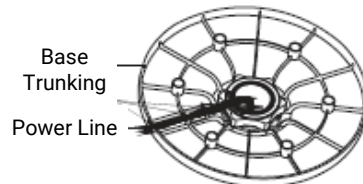

Figure 2
2. Organize the power line and put it into the base trunking according to its flat position direction. (*shown in Figure 2*)